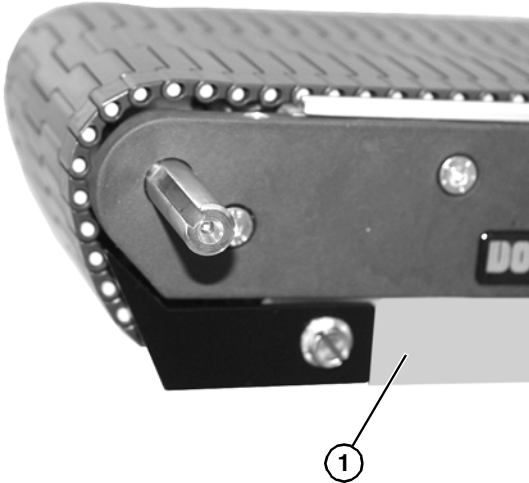

Figure 14
3. Feed belt into bottom wear strips (**Figure 14, item 1**) and pull through to the far end.